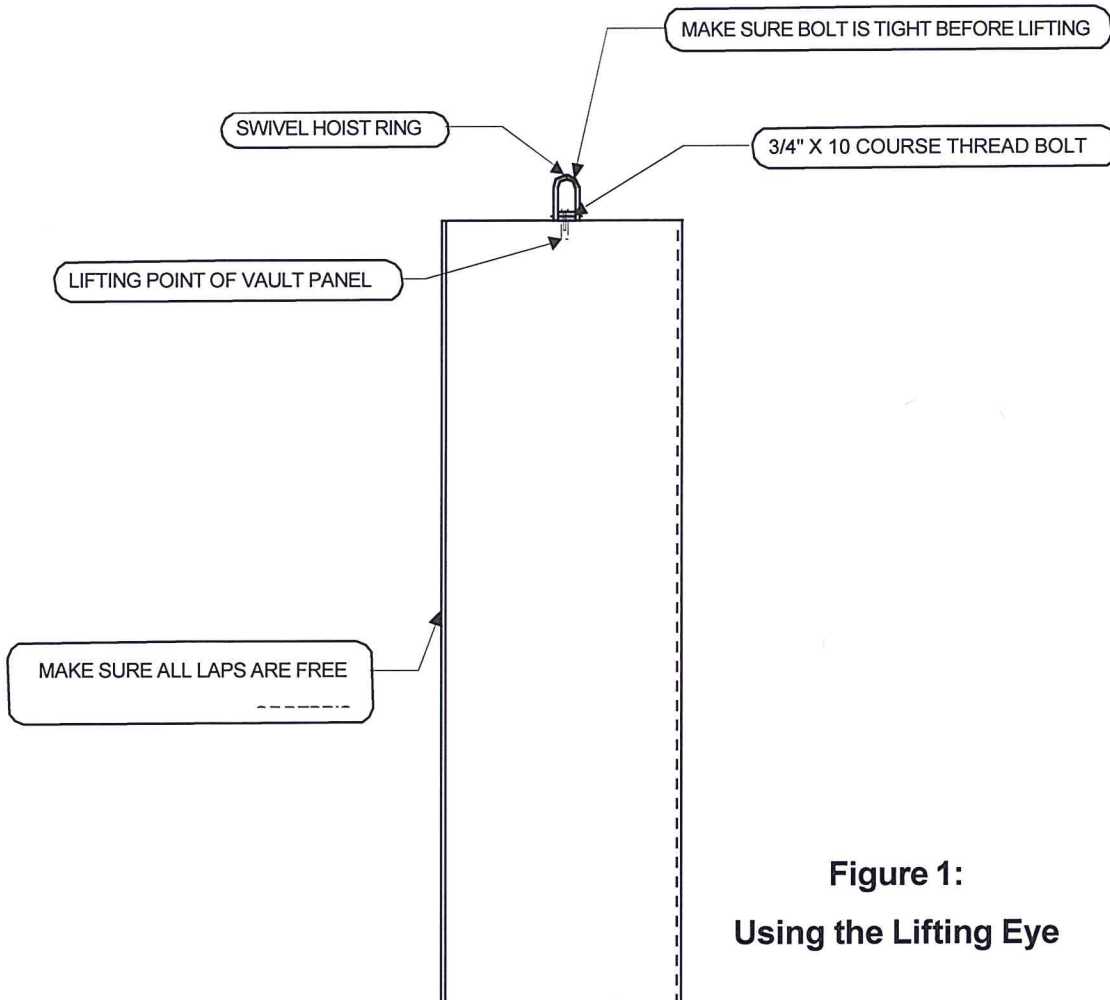

Figure 1:
4. It is recommended that the lifting device allow the panel to spin freely. (See Fig. 1)
- Swivel Hoist Ring (for panels-see instructions on page 3 and Figure 1)